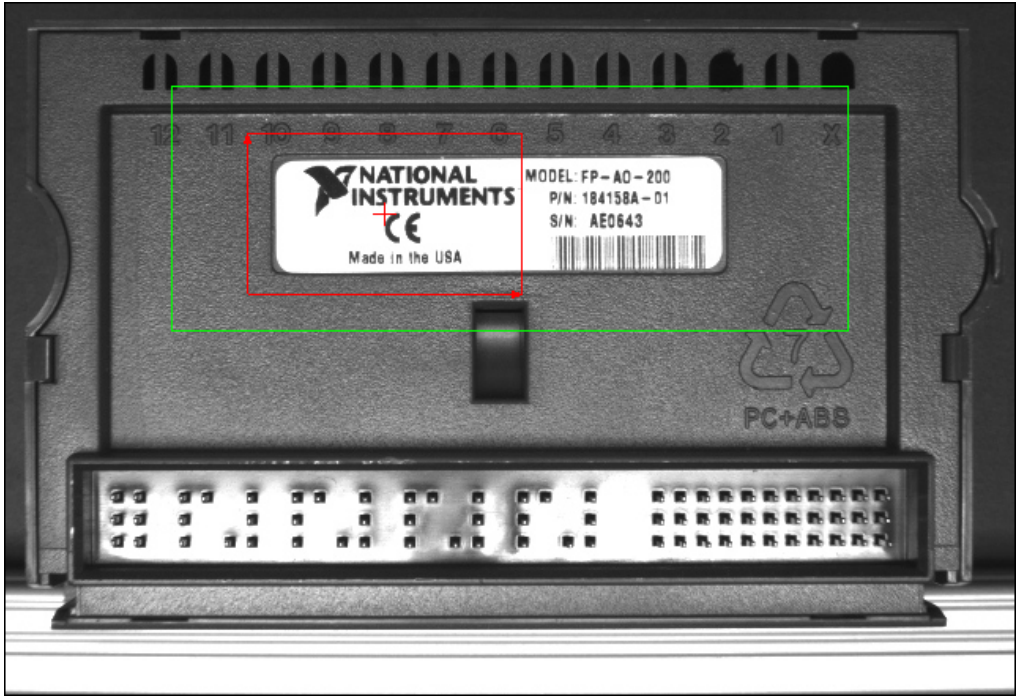

Figure 1-5. Limiting the Search Region
6. Redraw or decrease the default green ROI so that it surrounds only the portion of the device that contains the learned template, as shown in Figure 1-5.